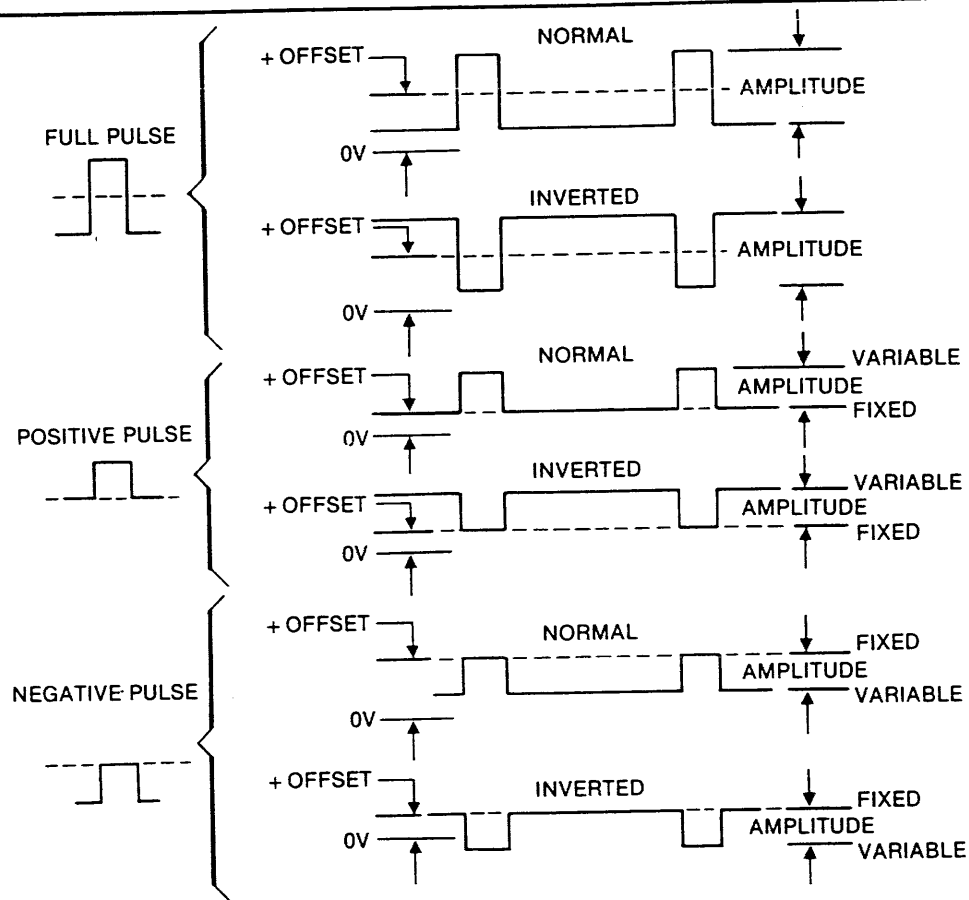

Figure 3-2. PULSE/SQUARE OUTPUT Amplitude/Offset Relationship
- 7 **PULSE/SQUARE OUTPUT** — Selects the pulse amplitude symmetry relative to the baseline (ref: figure 3-2). With DC OFFSET **11** off, the baseline is 0 volts. With DC OFFSET on, the baseline is varied by the DC OFFSET control **13**.